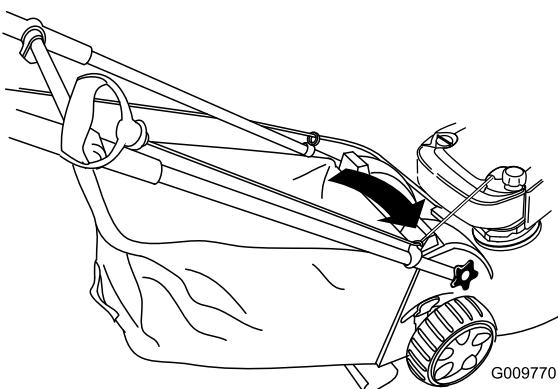

**Figure 34**
3. Insert the mulch plug (Figure 34).